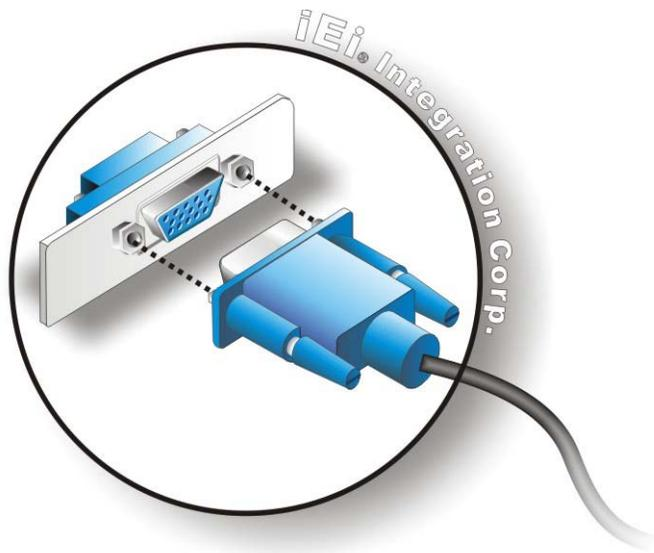

Figure 4-21: VGA Connector
- Step 3:** **Insert the VGA connector** Once the connectors are properly aligned with the insert the male connector from the VGA screen into the female connector on the IMB-Q870-i2. See **Figure 4-21**.